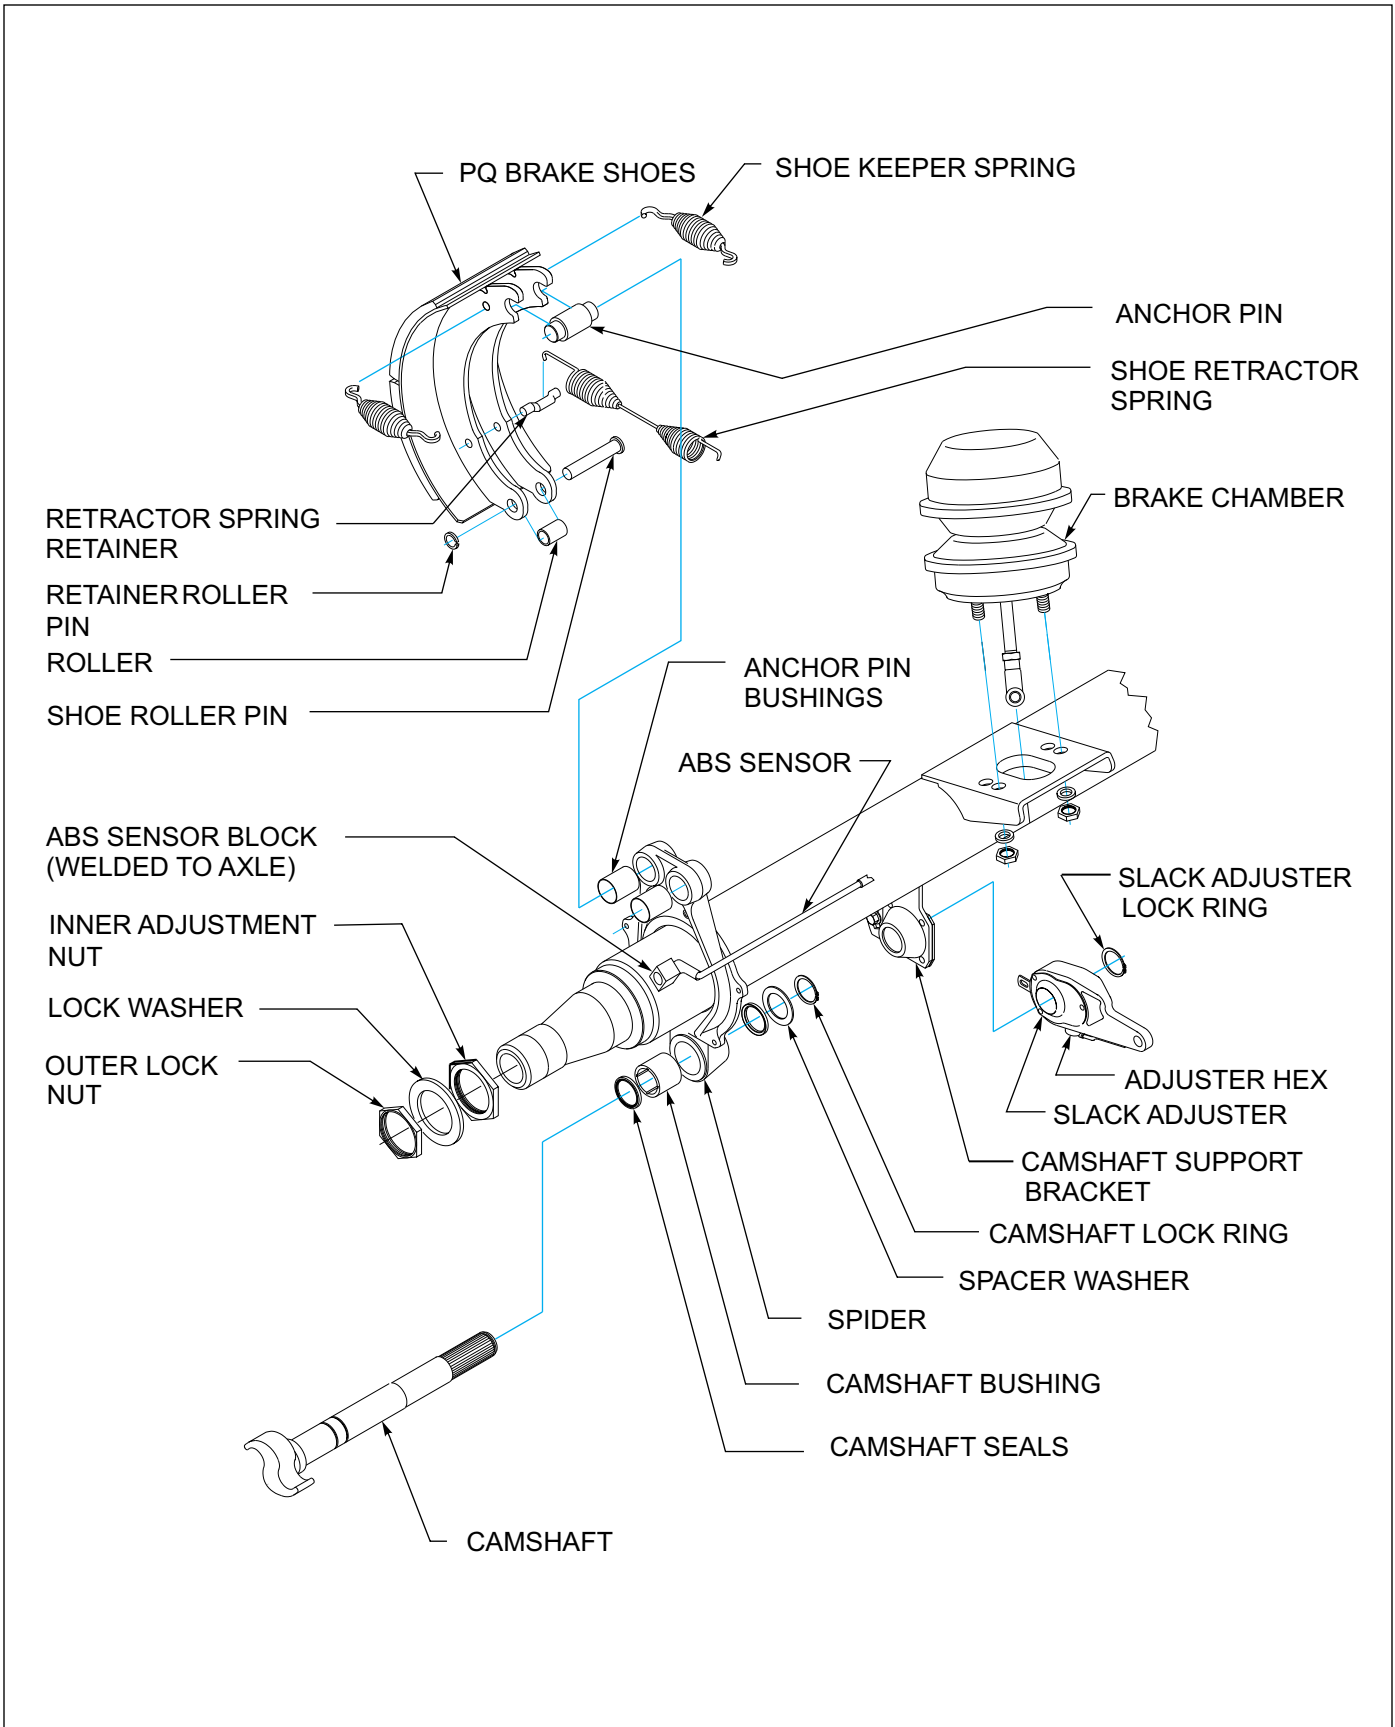

Figure 4-9: Axle and Brake Assembly
1. Release brakes and back off slack adjuster (See Figure 4-9.)
1. Install new anchor pin bushings, camshaft bushing and camshaft seals into the spider (**See Figure 4-9.**) When installing camshaft seals, the seal on the slack adjuster side is installed facing into spider. This allows grease to purge outside the brake assembly when greasing the camshaft bushing.